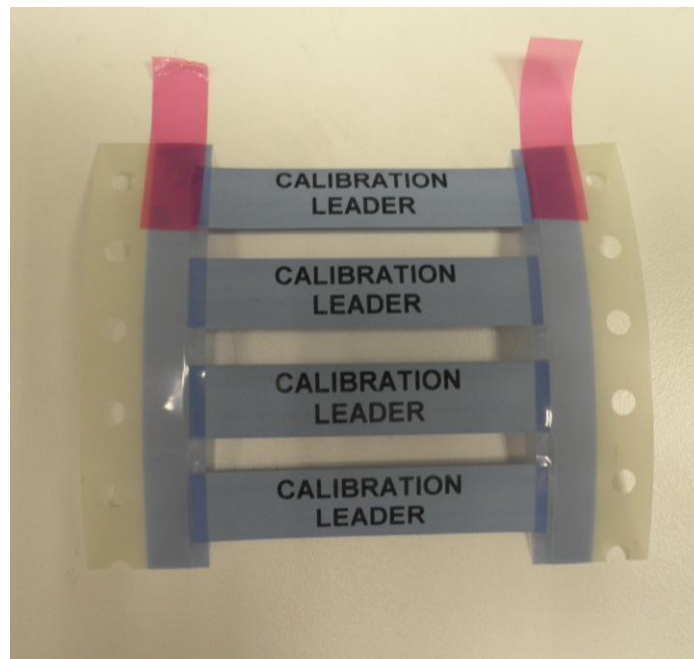

Figure 2, Fix thin adhesive tape to the leader
3. Attach the leader as show in Figure 2, using thin adhesive tape, visually keeping the gap between markers as uniform as possible.